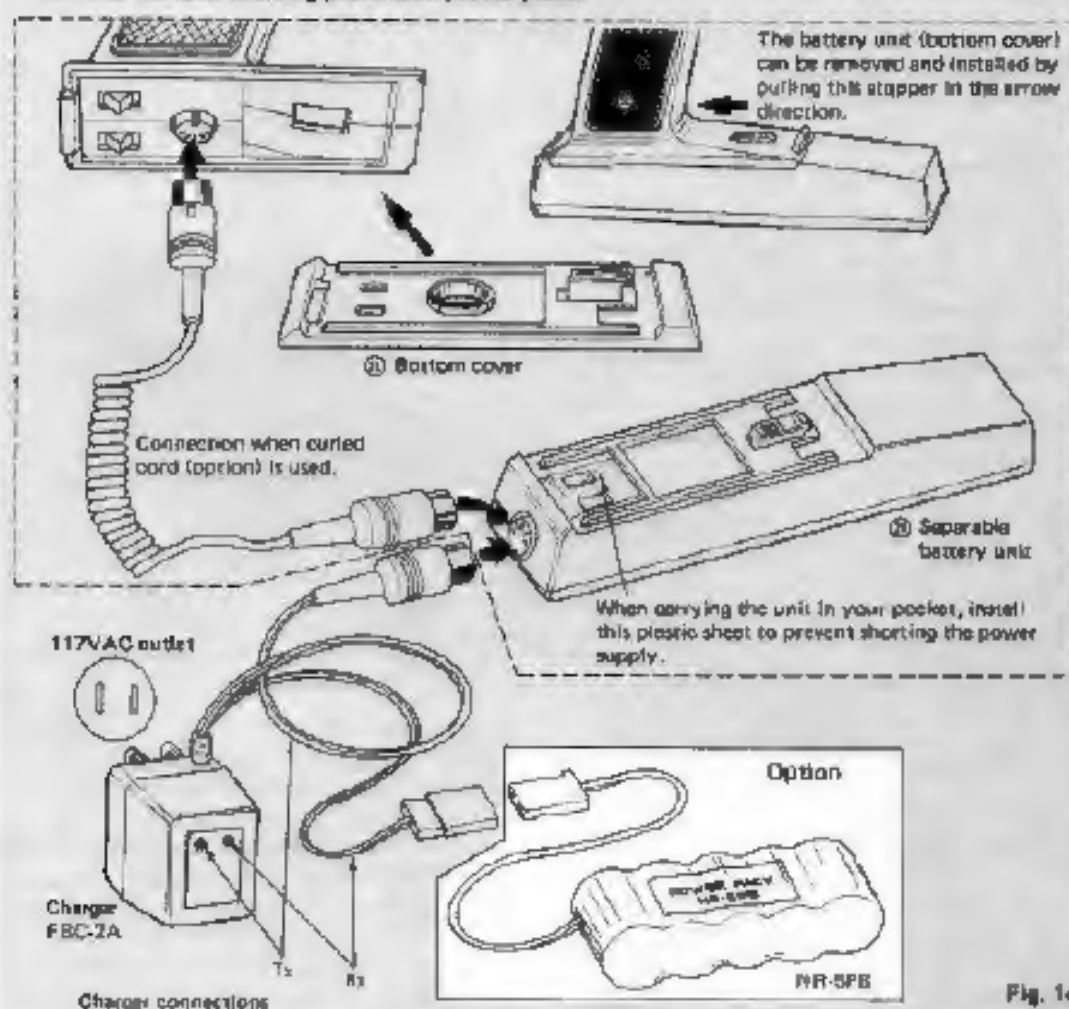

Fig. 14
•The MAGNUM SERIES Niod battery section and separable battery unit can be mounted and dismounted as shown in Fig. 14. The Niod battery section and separable battery unit carried in your pocket by remove them from the transmitter, installing the 26 bottom cover, and connecting the optional curled (FTA-2) cord to the battery unit.